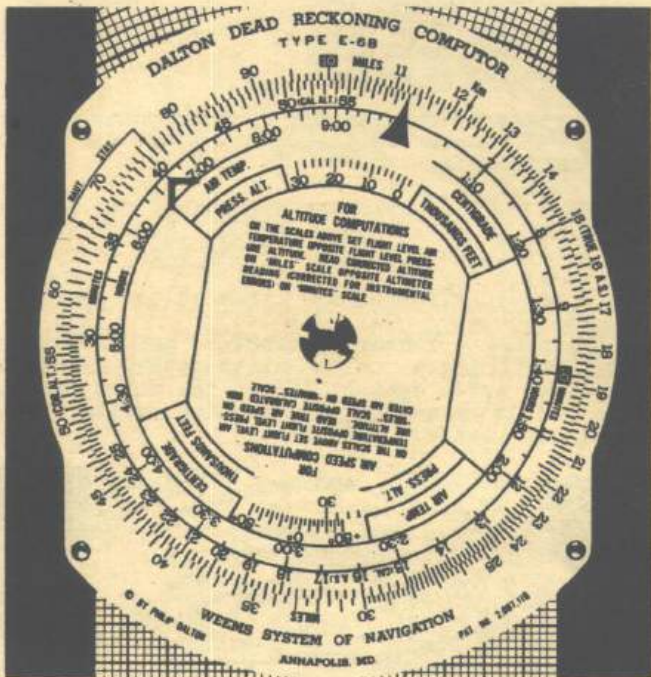

Figure 7
- (b) Read rate of consumption on the miles scale ( $112\frac{1}{2}$  gallons per hour) opposite the speed arrow. (figure 7)